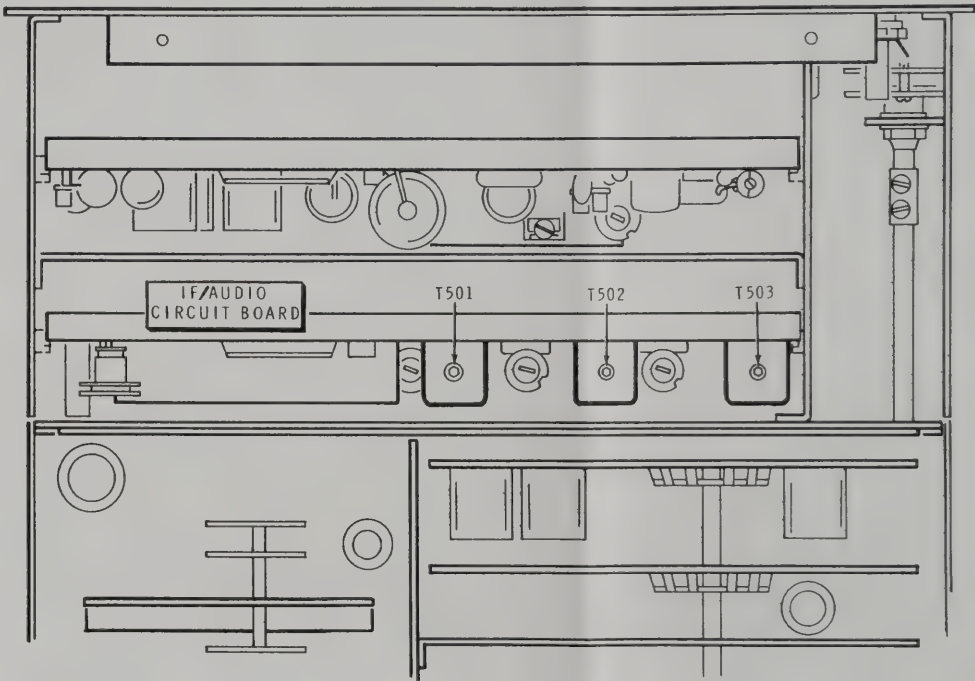

Figure 20
Refer to Figure 20 and adjust IF transformers T501, T502, and T503 for a maximum meter reading.
- () Refer to Figure 20 and adjust IF transformers T501, T502, and T503 for a maximum meter reading.